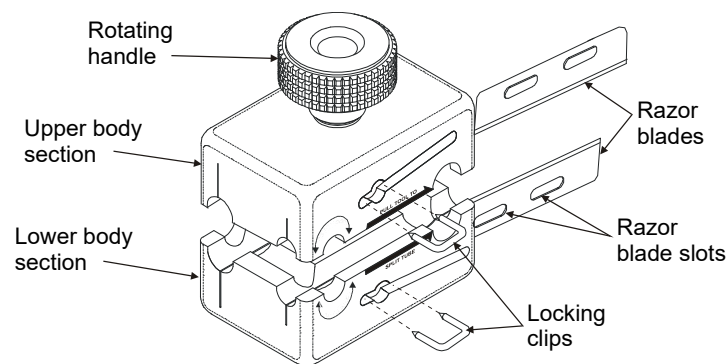

Figure 1. 1050 Series Tool
- 2.1 The 1050 tool (Figure 1) is composed of upper and lower body sections that are opened and closed by a rotating handle. Each section contains a semicircular groove that runs along the length of the tool. Centered in this groove is an angled slot that positions a razor blade at a preset depth to cut the wall of a core tube. Each body section also contains a semicircular groove that runs perpendicular to the splitting groove. This groove is provided to ring cut the core tube.